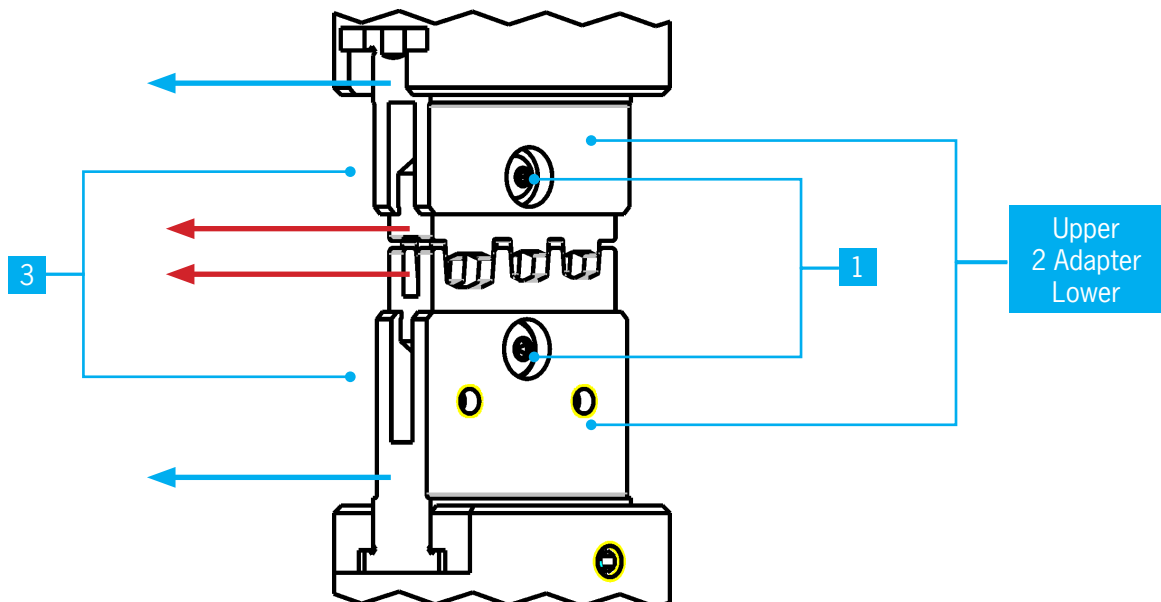

Fig. 4
- Loosen the set screws for the lower crimping die with an Allen wrench SW 2,5 mm Fig. 4/1; open the crimping die by turning the wrench on the square counter bearing slightly
- Pull out the die set in the direction of the red arrows Fig. 4/3 out of the adapters Fig. 4/2
- Turn the upper adapter intake by 90° until the fastening screw Fig.4/4 of the upper adapter points towards the user
- Slide the adapter intake out of the machine to the front in the direction of the blue arrows Fig.4